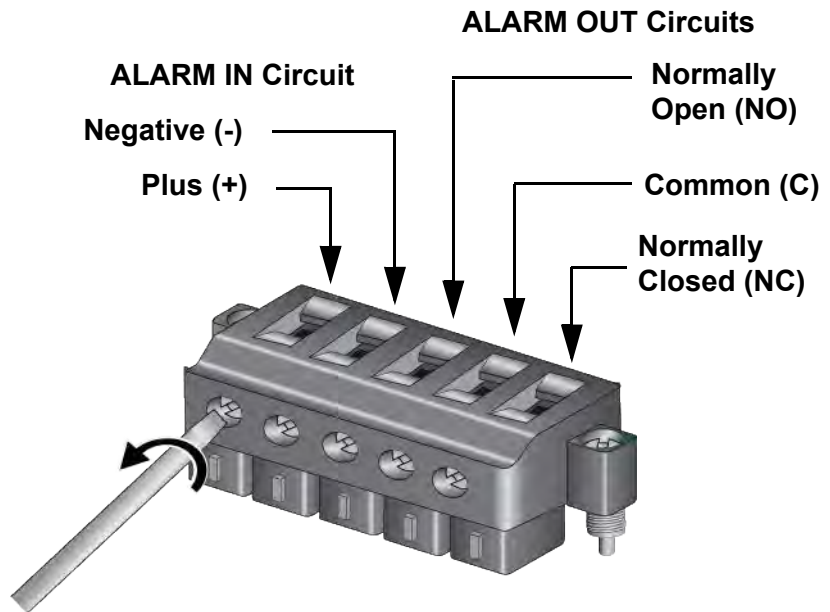

Figure 56. Loosening the Wire Retaining Screws on the ALARM IN / ALARM OUT Plug
- Use a #1 screwdriver to loosen the wire retaining screws that correspond to the connector pins of the selected ALARM IN and ALARM OUT circuits. Refer to Figure 56.